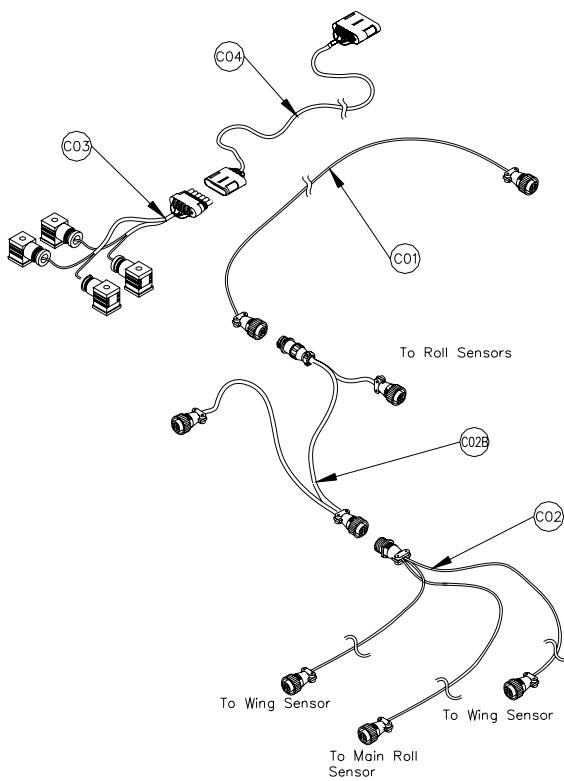

Figure 25 – Cable Configurations: C01, C02, C02B, C03 and C04
13. Connect the 6-pin Tower on the UC4+ valve cable (**C03**) to **C04** at the rear of the sprayer (**Figure 25**).
15. Connect the CAN Node cable (**C02B**) to the 4-pin AMP plug on **C01** (**Figure 25**).
18. Connect the sensor branch cable (**C02**) to the 4-pin AMP plug on **C02B** (**Figure 25**).